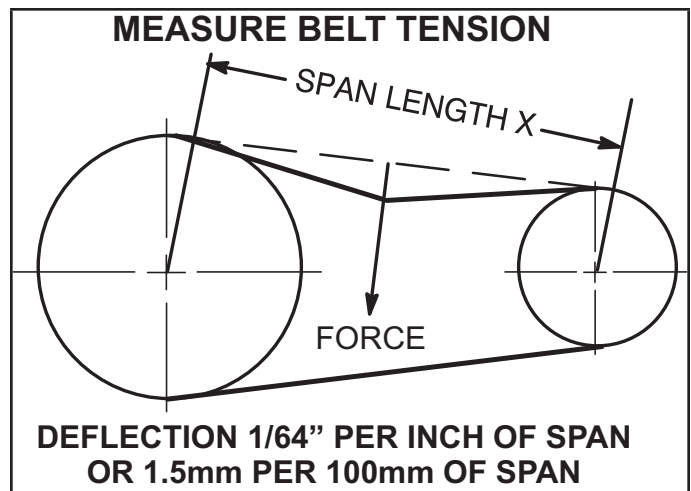

FIGURE 19
- 1 - Measure span length X. See FIGURE 19.
- 2 - Apply perpendicular force to center of span (X) with enough pressure to deflect belt 1/64" for every inch of span length or 1.5mm per 100mm of span length.